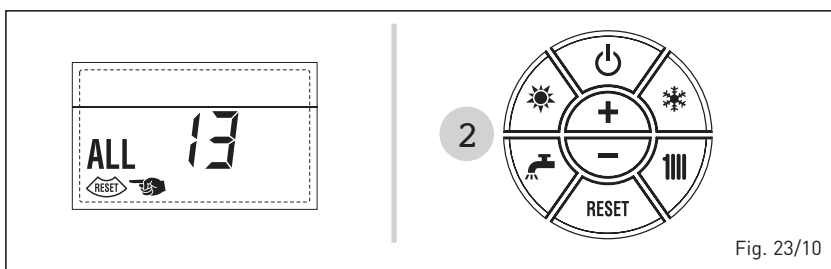

Fig. 23/10
- **ANOMALÍA Sonda HUMOS “ALL 14” (fig. 23/11)**